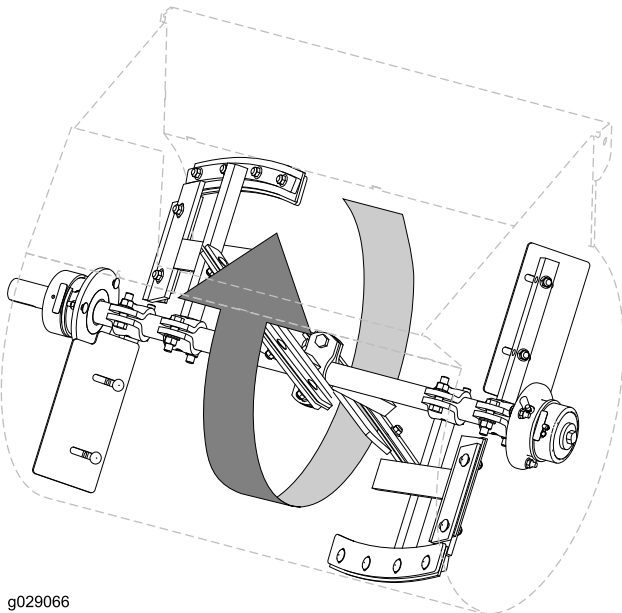

Figure 69
1. Rotate a paddle from the left row of paddles around the drum and locate at the interior of the drum the smallest distance between the drum and the wiper of the paddle (Figure 69).